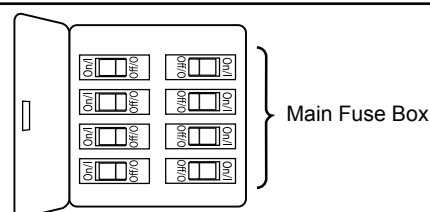
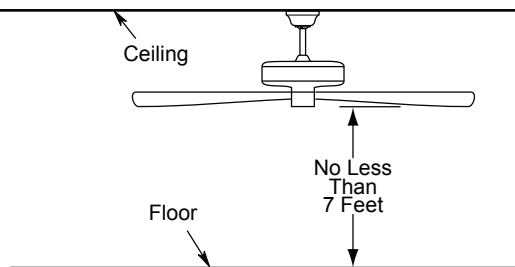
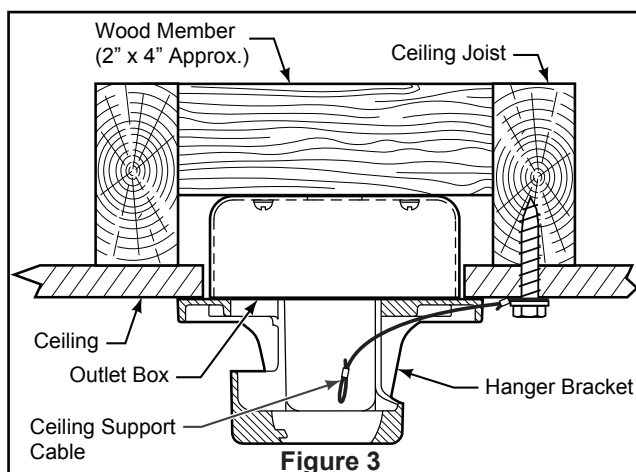

Figure 1
Figure 2
Figure 3
Your new ceiling fan will require a grounded electrical supply line of 120 volts AC, 60 HZ, 15 Amp Circuit. Electrical code requires use of a fan-rated outlet box to support the extra weight and motion associated with a ceiling fan. A fan-rated box will be labeled as such and typically supports up to a 70lb ceiling fan. Fan-Rated Outlet Boxes vary in ratings and design. Ensure the ratings of your ceiling fan outlet box meet the requirements for the ceiling fan being installed. Figure 1, Figure 2 and Figure 3 depicts different structural configurations that may be used for mounting the outlet box.
Low profile box (Figure 1)
Deep box (Figure 2)
Deep box with brace (Figure 3)
- ☐ **1.** Remove the three stabilizer tabs and plastic bag from the motor. Discard the stabilizer tabs. (Figure 1)
- ☐ **2.** Prior to assembly, set aside and save the hardware bags packaged with your fan. Remove the hanger ball by loosening the set screw in the hanger ball until the ball falls freely down the downrod. Remove the pin from the downrod, then remove the hanger ball. Retain the pin and hanger ball for reinstallation in Step 7. (Figure 2)
- ☐ **3.** Remove the hairpin clip and clevis pin from the bottom of downrod. Retain the pin and clip for reinstallation in Step 5. (Figure 3)
To avoid possible fire or shock, be sure electricity is turned off at the main fuse box before hanging. (Figure 1)
The fan must be hung with at least 7' of clearance from floor to blades. (Figure 2)
- ☐ 1. Securely attach the hanger bracket to the outlet box using the outlet box screws and washers supplied with the fan. (Figure 3)
- ☐ 2. Drill a 1/4" pilot hole into the building structure to prevent splitting or cracking with installation of the lag bolt. Using the 3/8" x 2" lag bolt and flat washer, attach safety cable to ceiling joist or wood structural member. The lag bolt will pass through the flat washer, safety cable loop, and into the building structure. (Figure 3)
NOTE: Ceiling support cable cannot be secured to outlet box only, it must be directly secured to ceiling joist or structural member using the 3/8" x 2" lag bolt and flat washer. (Figure 3)
1. To set the code on receiver unit, slide dip switches to the same positions as set on the remote control. (Figure 1)
To avoid possible electrical shock, be sure electricity is turned off at the main fuse box before wiring. (Figure 2)
2. Slide the receiver into the hanger bracket before wiring as shown in figure 3.
- ☐ 1. Assemble canopy by rotating key slot in canopy over shoulder screw in hanger bracket, taking care not to pinch the wires. Tighten shoulder screw. Fully assemble and tighten second shoulder screw that was previously removed. (Figure 1)
- ☐ 2. Securely attach and tighten the canopy screw cover over the shoulder screws in the hanger bracket utilizing the key slot twist-lock feature. (Figure 2)
1. Secure the three blades using the 3/16"-24 serrated head screws with flat washers through the holes located on the bottom of the motor assembly. (Figure 1)
2. Attach the plastic cap assembly to the motor assembly, which is held in place by a magnet. (Figure 2)
- ☐ 1. **IMPORTANT:** Using a full range dimmer switch (not included) to control fan speed will damage the fan. To reduce the risk of fire or electrical shock, do not use a full range dimmer switch to control the fan speed. (Figure 1)
- ☐ 2. Restore electrical power to the outlet box by turning the electricity on at the main fuse box. (Figure 2)
- ☐ 3. Remove the battery cover from remote control by screwdriver and retain the screw for later. (Figure 3)